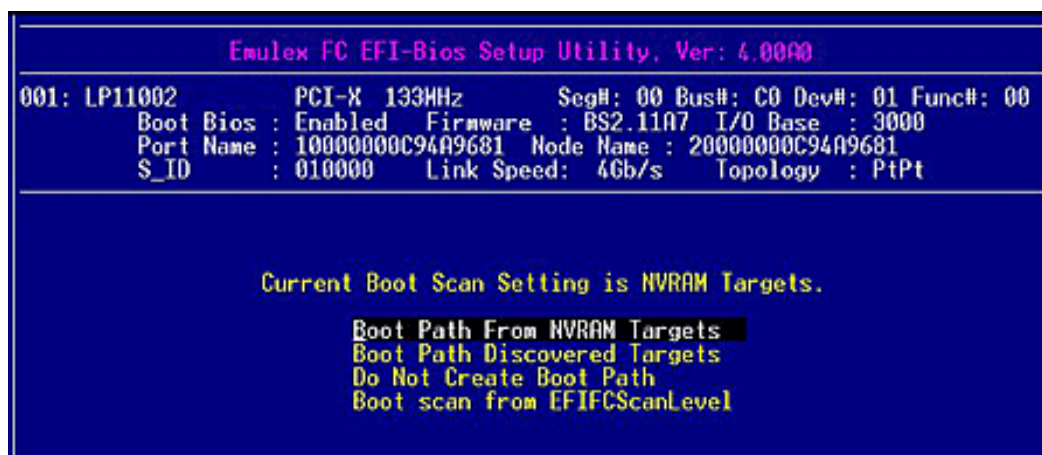

Figure 6-17 Boot Scan Options Screen
1. On the Boot Configuration menu, select **3. Boot Target Scan** and press **<Enter>**. The screen shown in Figure 6-17 is displayed.